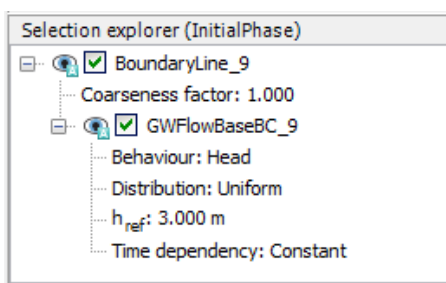

Figure 167: Initial phase with ground water flow base
5. In the **Selection explorer** select the **Head** option in the **Behaviour** drop-down menu and set h_{ref} to 3.0 as shown in Figure 167 (on page 191).